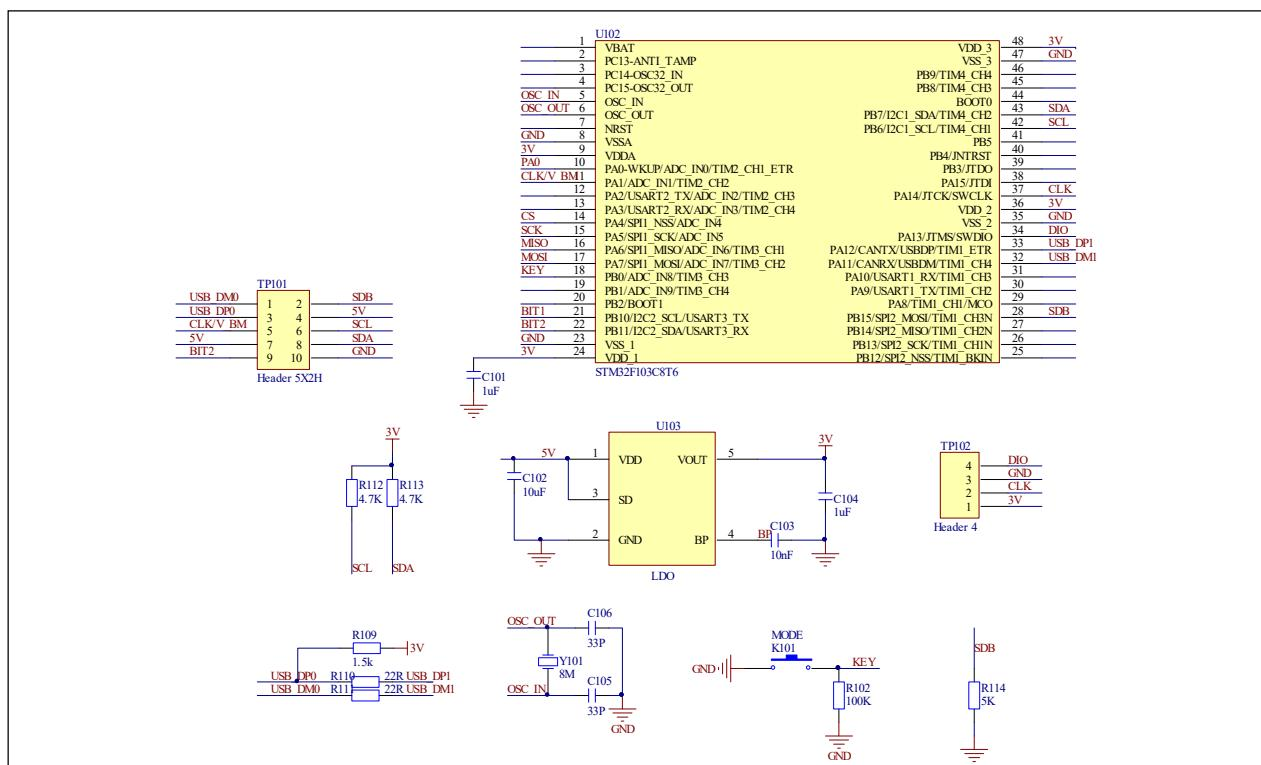

Figure 5: MCU Schematic
*Bill of Materials, refer to Figure 5 above.*